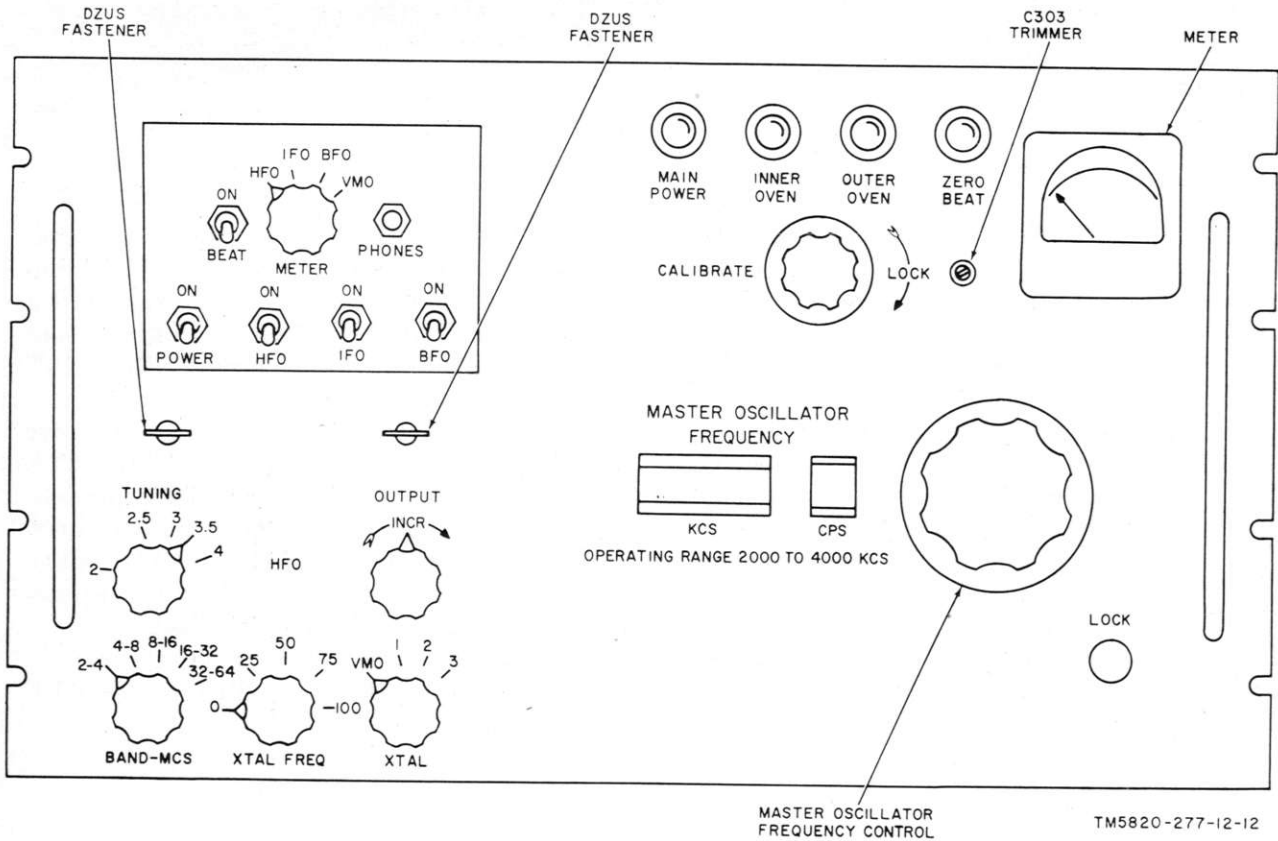

Figure 11. Variable frequency oscillator, front panel operating controls.
a. Subpanel Controls and Jacks (fig. 11)
b. Front Panel Controls and Indicators (fig. 11).